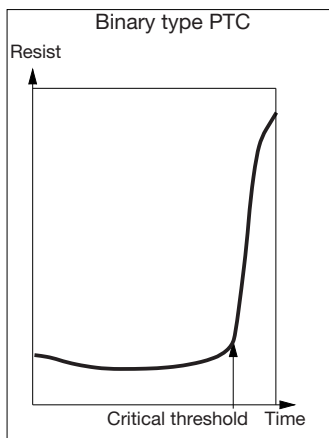

Fig.2
2. Protection against over-temperature is provided by temperature probes, which are used to particular advantage in the protection of motors with extremely high keying frequency because thermal cutouts are not suited for use with keying frequencies of more than 15 starting cycles/hour. The thermistor used most widely is the binary-type positive coefficient PTC, in which when the critical temperature is reached the resistance increases abruptly to trigger the immediate triggering of the devices to which the PTC is connected (Fig. 2).